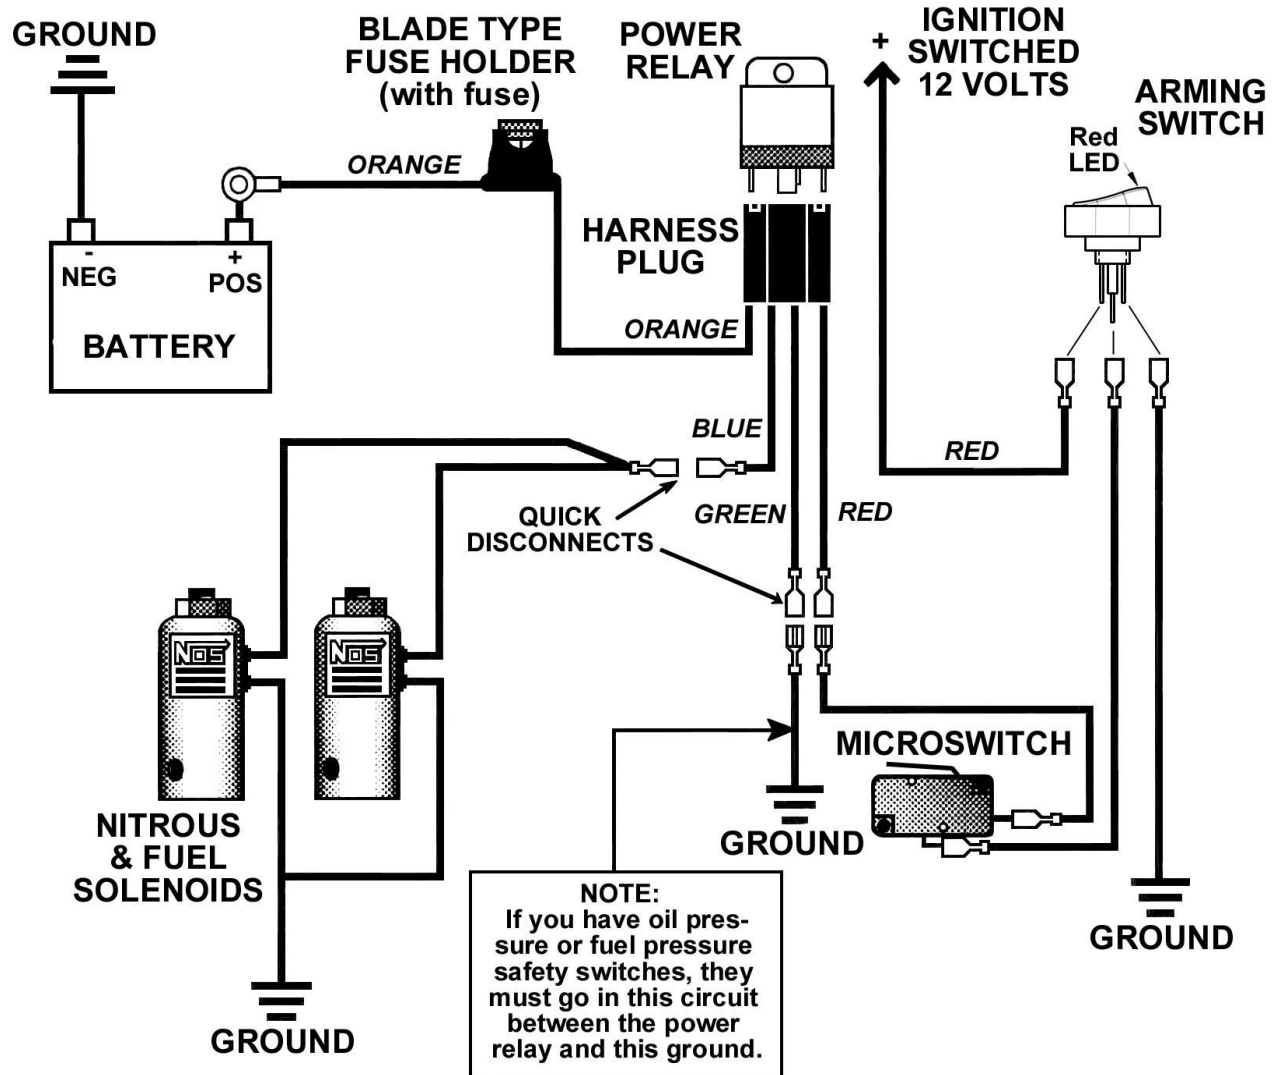

Figure 5 Wiring Schematic for Kit Numbers 02119NOS
NOTE: Numbers in parentheses () refer to the parts list /assembly drawing number for the component. Figure 5 shows the installation assembly for kit number 02119NOS.
7. Install the new injector plate stud (5) into the lower intake manifold. Refer to Figure 5 for stud location.
8. Install the new intake manifold gasket (9) and injector plate (10). The plate can only oriented one way when properly assembled and installed (note "THIS SIDE UP" etched in plate surface).
9. Install the new manifold gasket and upper intake manifold. Use 5/16" nuts (6), washers (7), and bolts (8 or 28 and 14) to secure the upper intake. The (8) bolt should be used with the new style intake. The (28) bolt (tapered head) should be used with the old style intake.
2. Refer to the wiring schematic (Figure 5) for electrical system installation.
| | System wired incorrectly. | Compare nitrous wiring to schematic (Figure 5). | Wire system per instructions. |
| | Loose ground wire(s). | Connect 12V test light to battery (+) terminal. Check for continuity at grounds shown in Figure 5. | Tighten/repair loose ground(s). |